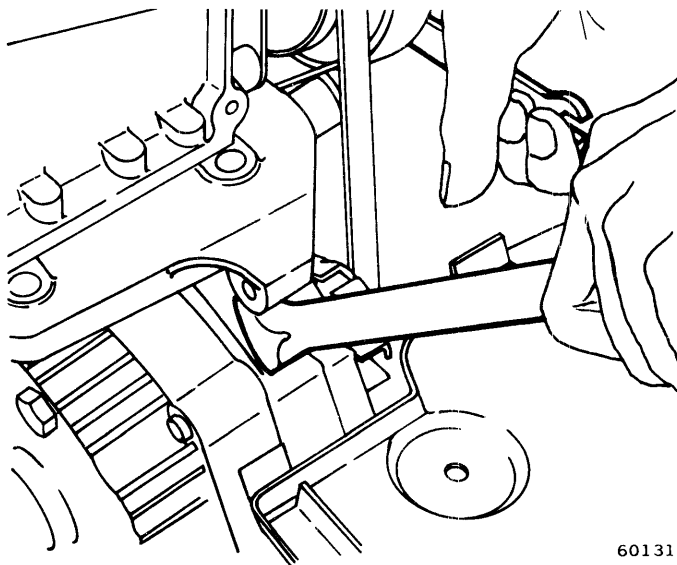

Fig. 2-13 Alternator Adjustment—Six-Cylinder with Air Conditioning
(1) Loosen alternator lower adjusting bolt.
(2) Loosen alternator bracket adjusting bolt.
(3) Loosen alternator upper pivot bolt.
(4) Adjust alternator using a suitable pry bar. Snug adjust bolt (fig. 2-13).